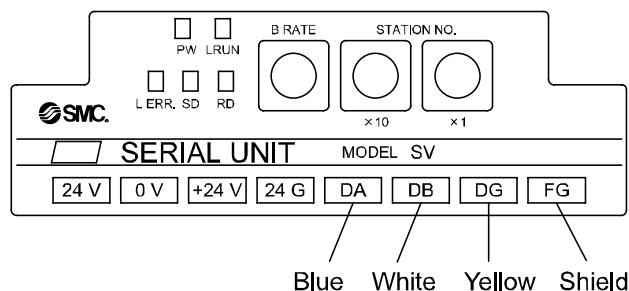

Fig.1
(1) Be sure to connect a signal line to its dedicated terminal. (Refer to Fig.1)